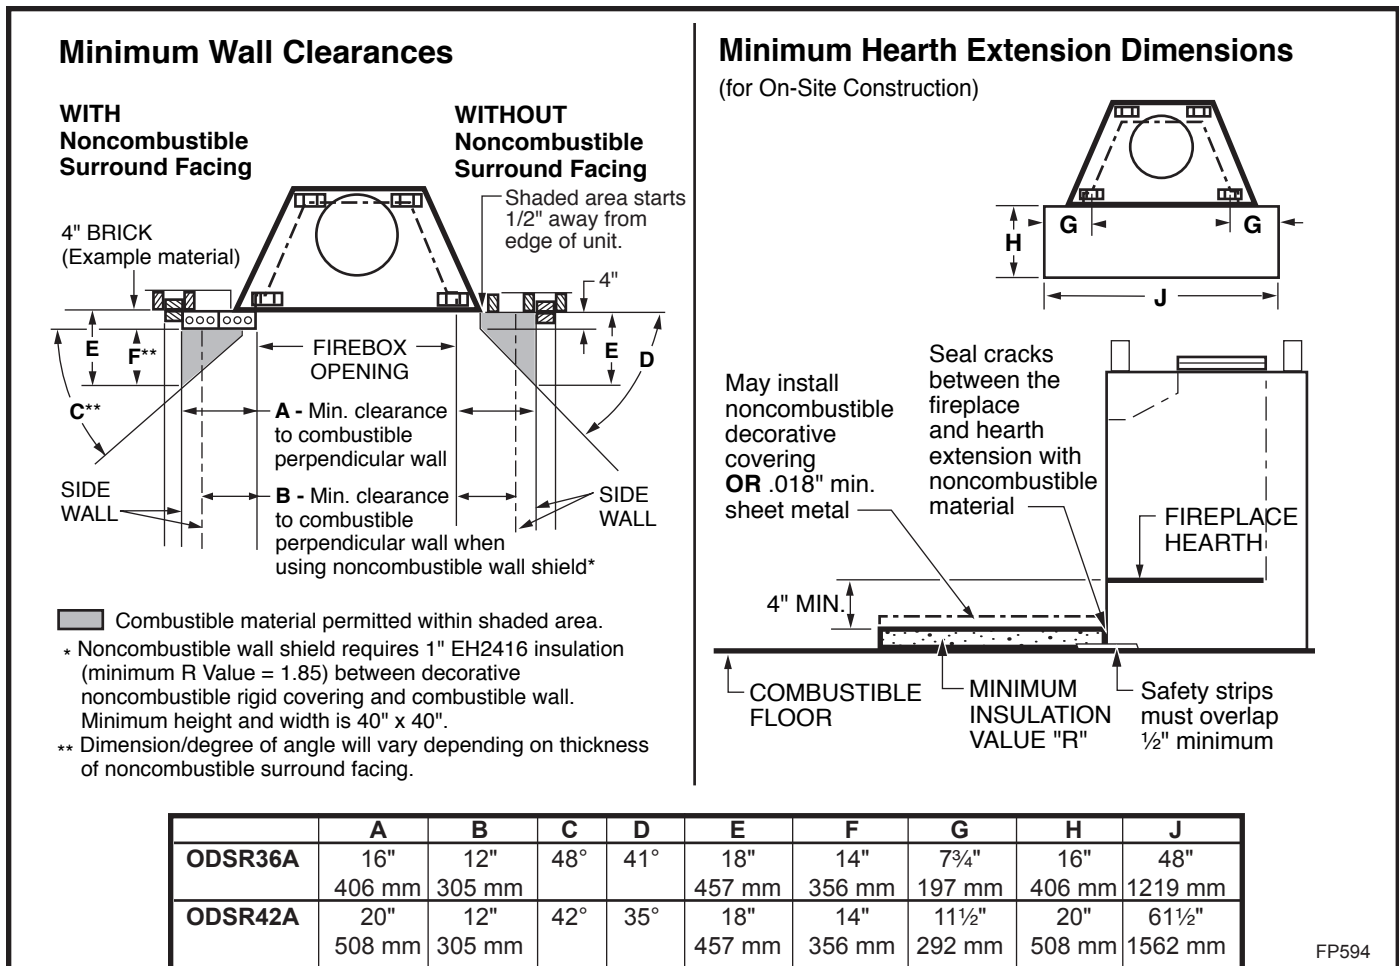

Fig. 24 Combustible side wall protection and hearth extension dimensions.
Often a decorative surround or vertical portion of the mantel is desired. If this is constructed of any combustible material it must be within the safe zone indicated in Figure 24.
Adjacent combustible side walls that are within the minimum dimensions shown in Figure 24 of fireplace opening must be protected with MHSC Wall Shield Model SP40 or a specifically built wall shield described below.
A hearth extension is required to protect a combustible floor in front of the fireplace. Refer to Figure 24 for minimum dimensions and mounting detail.
The hearth extension described in Figure 24 must be a durable noncombustible material with a minimum (total) Rt value of 1.09; refer to Figure 25 for examples. The overall height (above a combustible floor), depth and width must be as indicated, with the extension centered to the fireplace opening.
The top of insulation must be covered with a noncombustible decorative covering **or** a piece of .018" minimum sheet metal, to protect hearth extension material. (Fig. 24)
Secure the hearth extension to the floor to prevent shifting, using trim molding or other similar means at three (3) outer edges. Seal crack between the fireplace hearth and hearth extension with a noncombustible material. (Figs. 24 and 26)